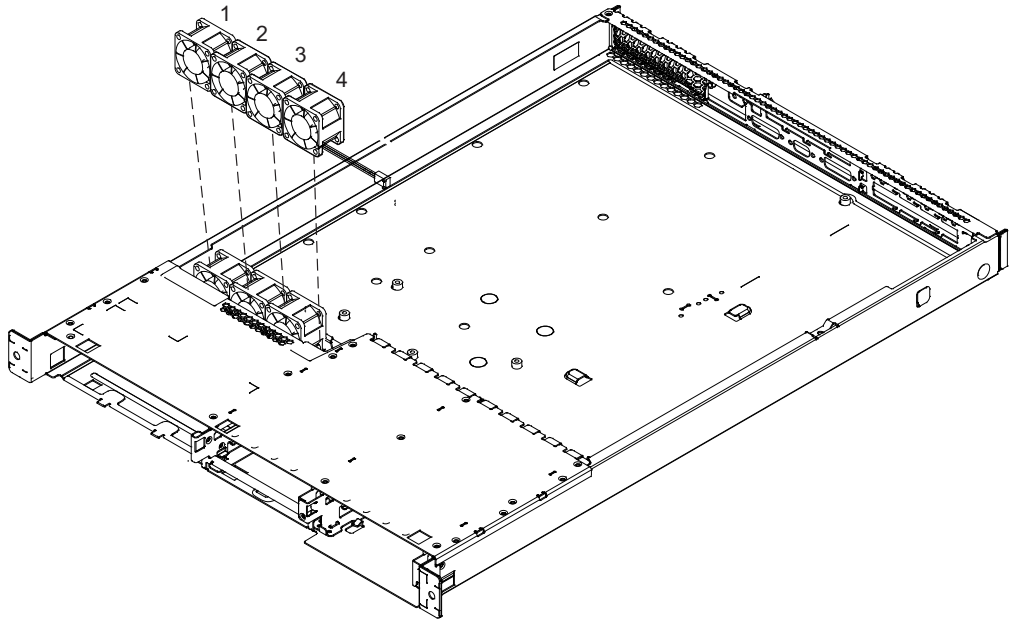

Figure 124. Replacing a microprocessor fan
1. Push the fan downward into the retaining clip. See Figure 124 on page 340.
**Note:** The fans are numbered from one to four, from left to right. See Figure 124.